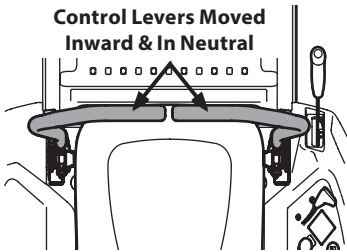

Figure 22
2. Move the RH and LH lapbar drive control levers inward in the neutral position which also disengages the parking brake. See Figure 22.